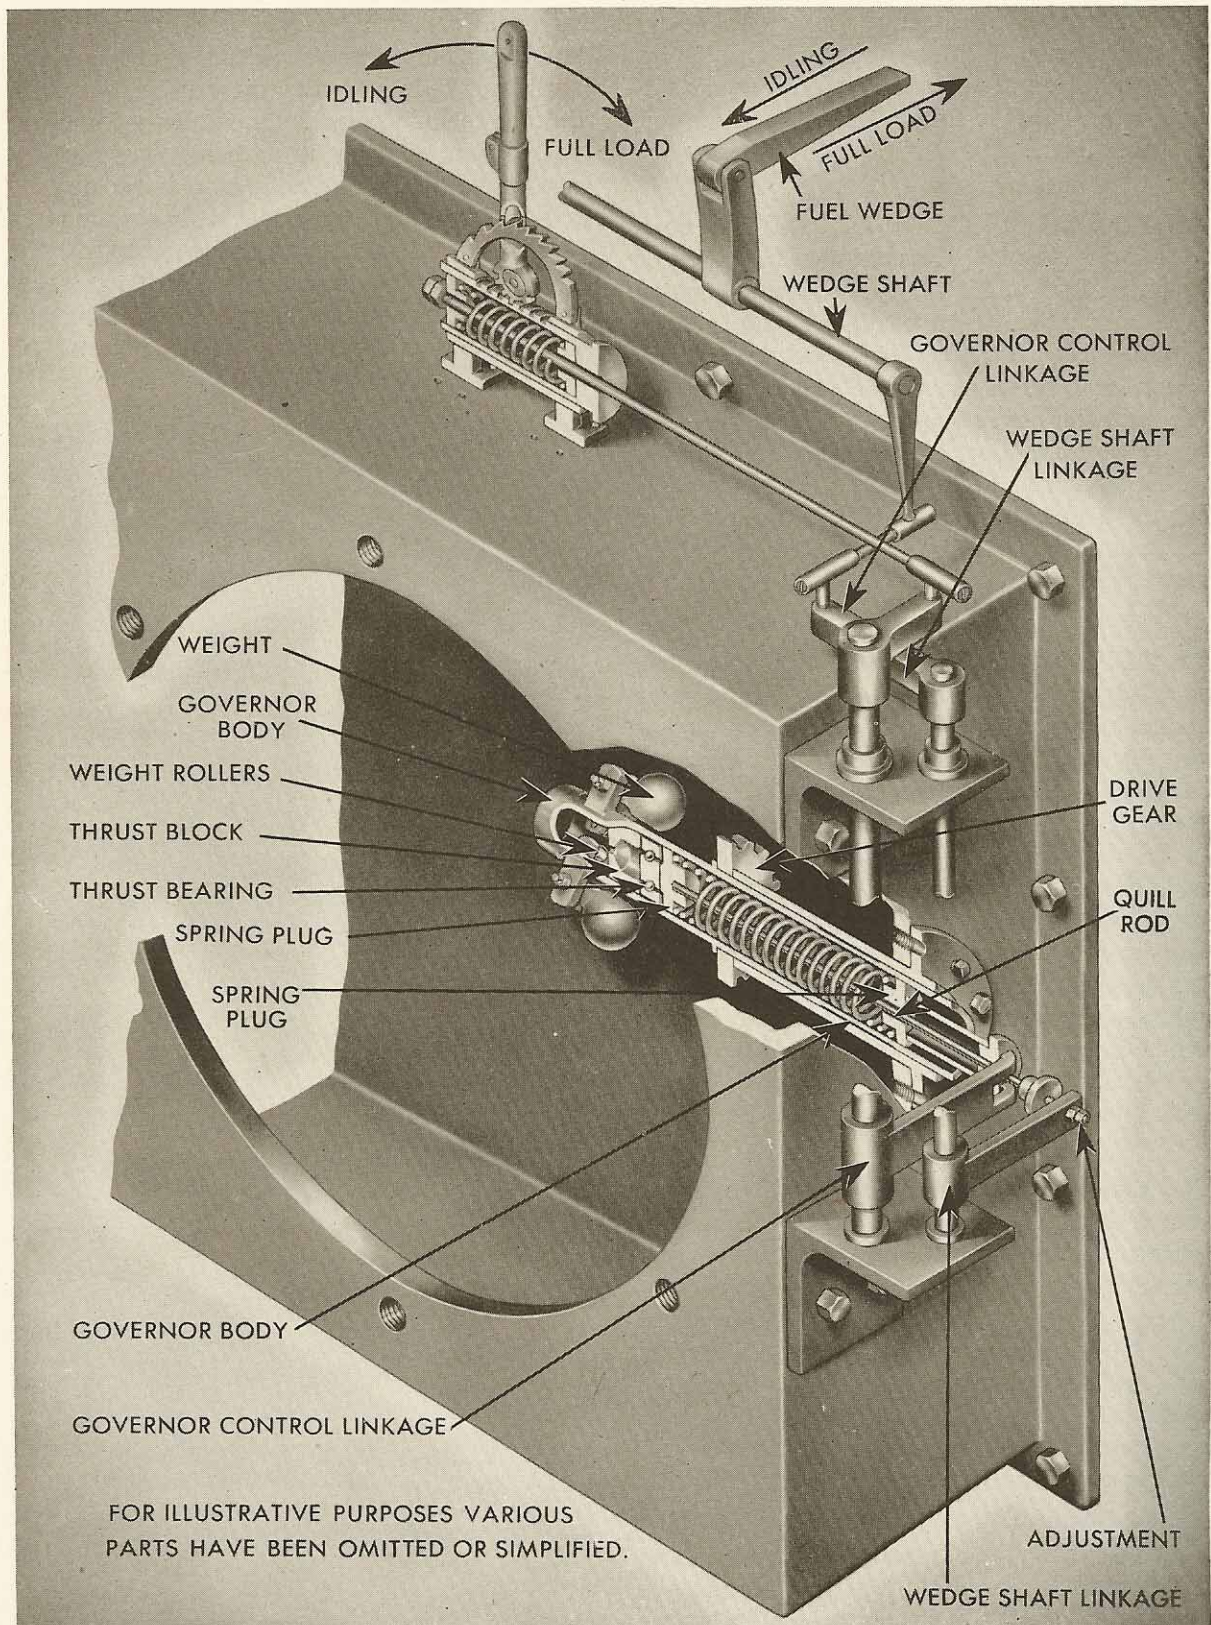

FIGURE 4-12
22. GOVERNOR: Selection of various engine speeds by manual control is desirable and some means of maintaining a selected speed during varying engine loads is necessary. This is accomplished through the control of the wedge shaft by the governor shown in Figure 4-12. In this drawing many parts have been left out and others simplified so that the action of the governor could be illustrated more clearly. The lay-out shown is of a hand wheel controlled engine but with a single lever controlled engine the governor action is the same, except that the spring tension is increased by a cam on the single lever instead of the ratchet and lever shown.